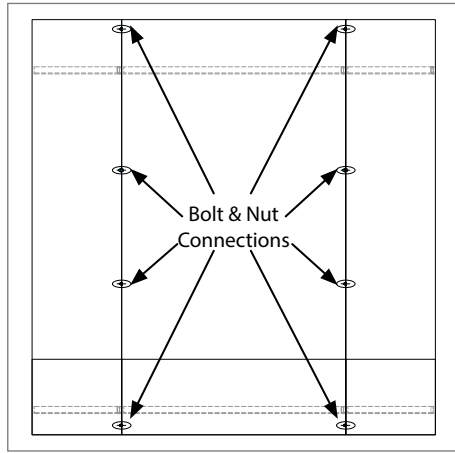

Figure 3
5. Align the sections and connect in 4 places along the vertical edges of each section, using the hardware provided (**Figure 3** and **Hardware 1**).